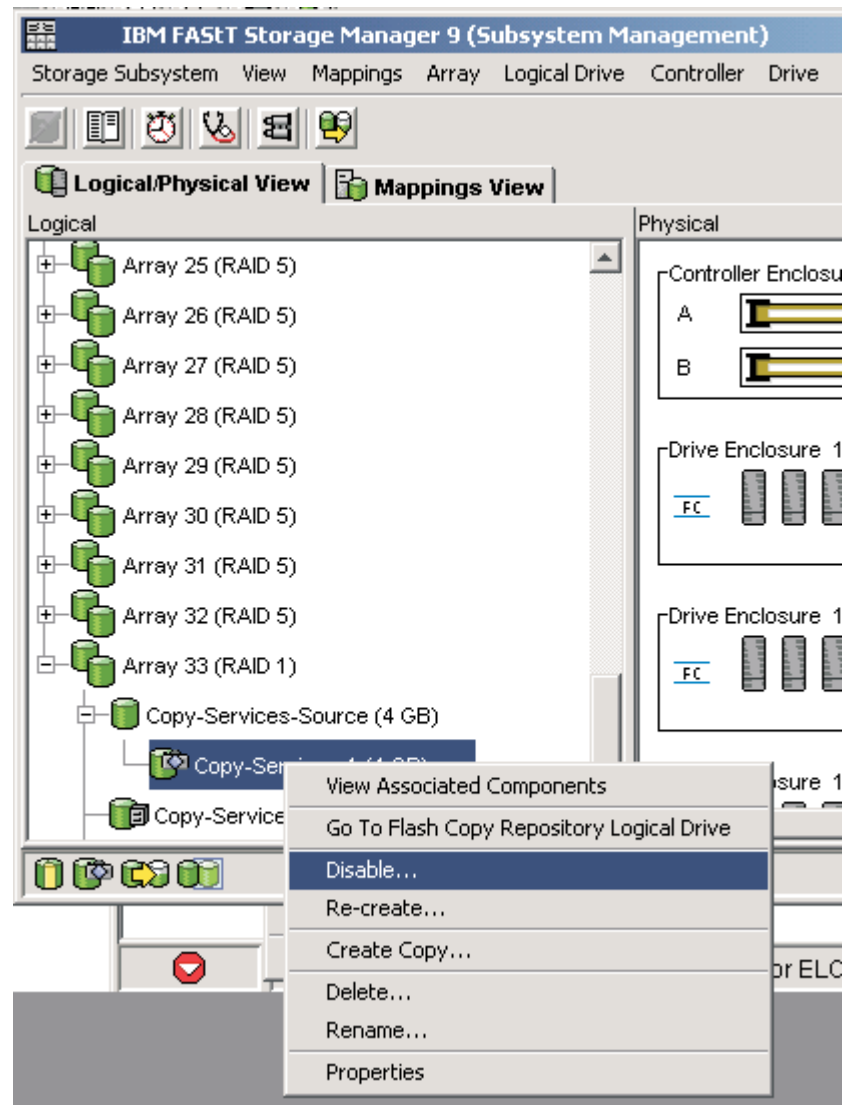

Figure 17. Choosing to disable the FlashCopy drive
1. Select the FlashCopy logical drive. Right-click and select **Disable**, as shown in Figure 17.